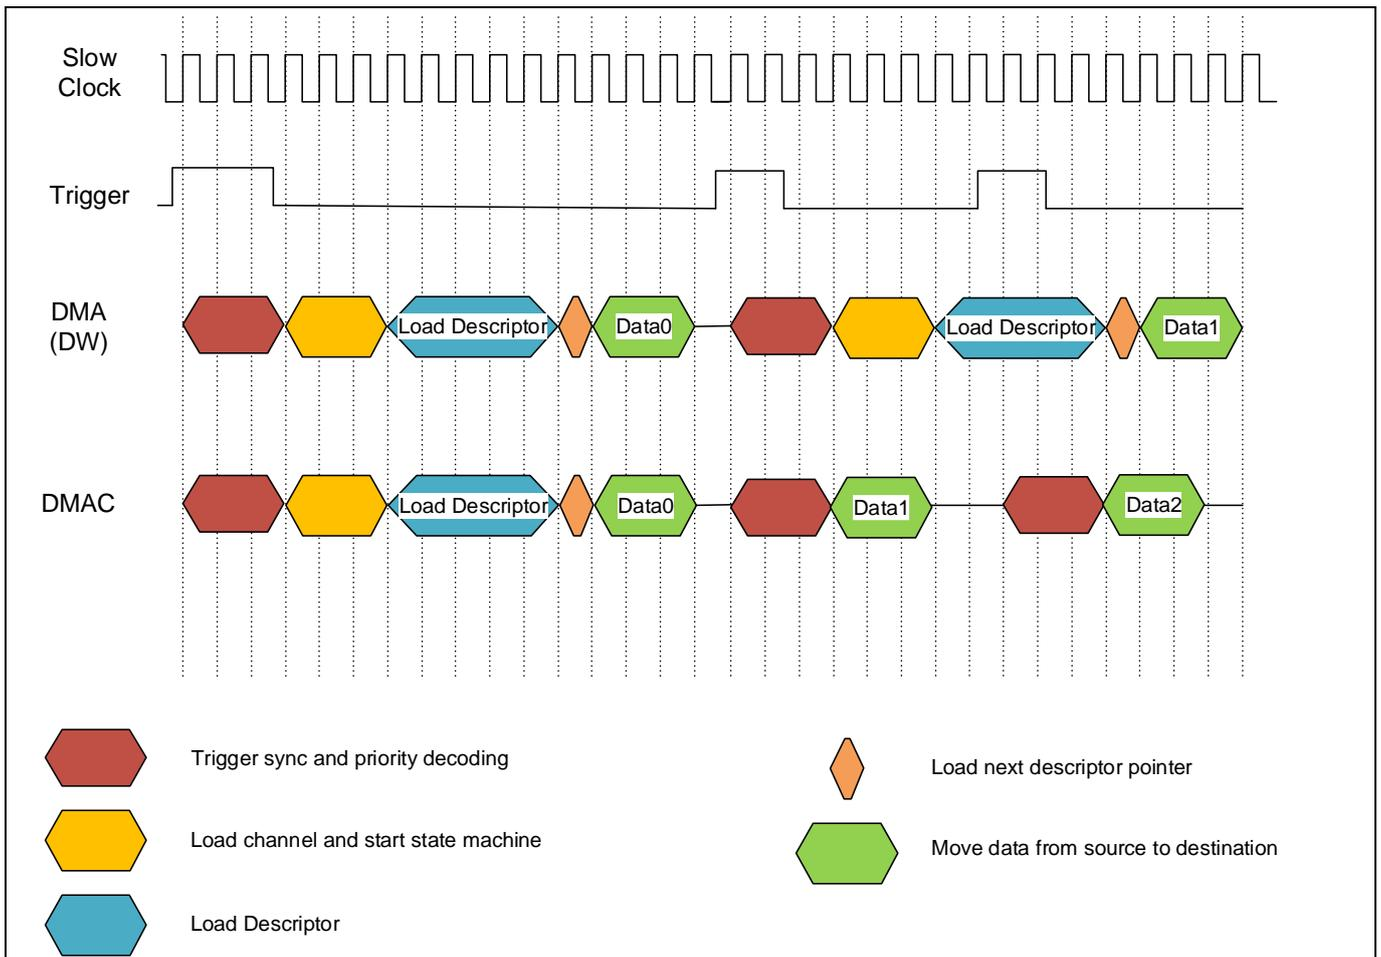

Figure 17 Performance comparison of DW and DMAC for a triggered mode of transfer
On DMAC, the DMA transfer engine logic is replicated per channel with channel-level memory to hold the state while switching channels. For every trigger, the DMAC does not have to fetch all channel and descriptor information. The only extra cycles incurred are for trigger sync and priority decoding. This means that DMAC will perform better in a transfer that is triggered multiple times. **Figure 17** shows this comparison of performance between DMAC and DMA (DW) using a timing diagram.